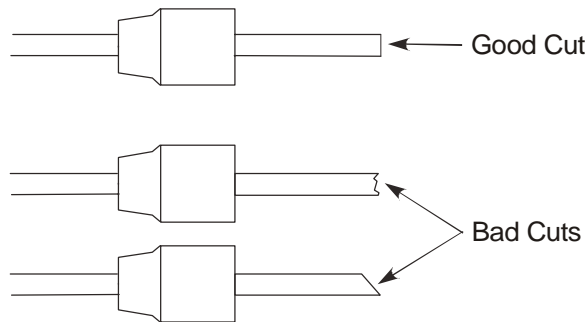

Figure 14 Good cut and bad cuts
3. Cut about 1 cm (3/8 inch) from the column end using a wafer scribe (part number N930-1376, pkg. of 10 scribes). Break off the tubing at the score mark so that the break is clean and square. Examine the cut with a magnifying glass and compare it to the examples shown in Figure 14.